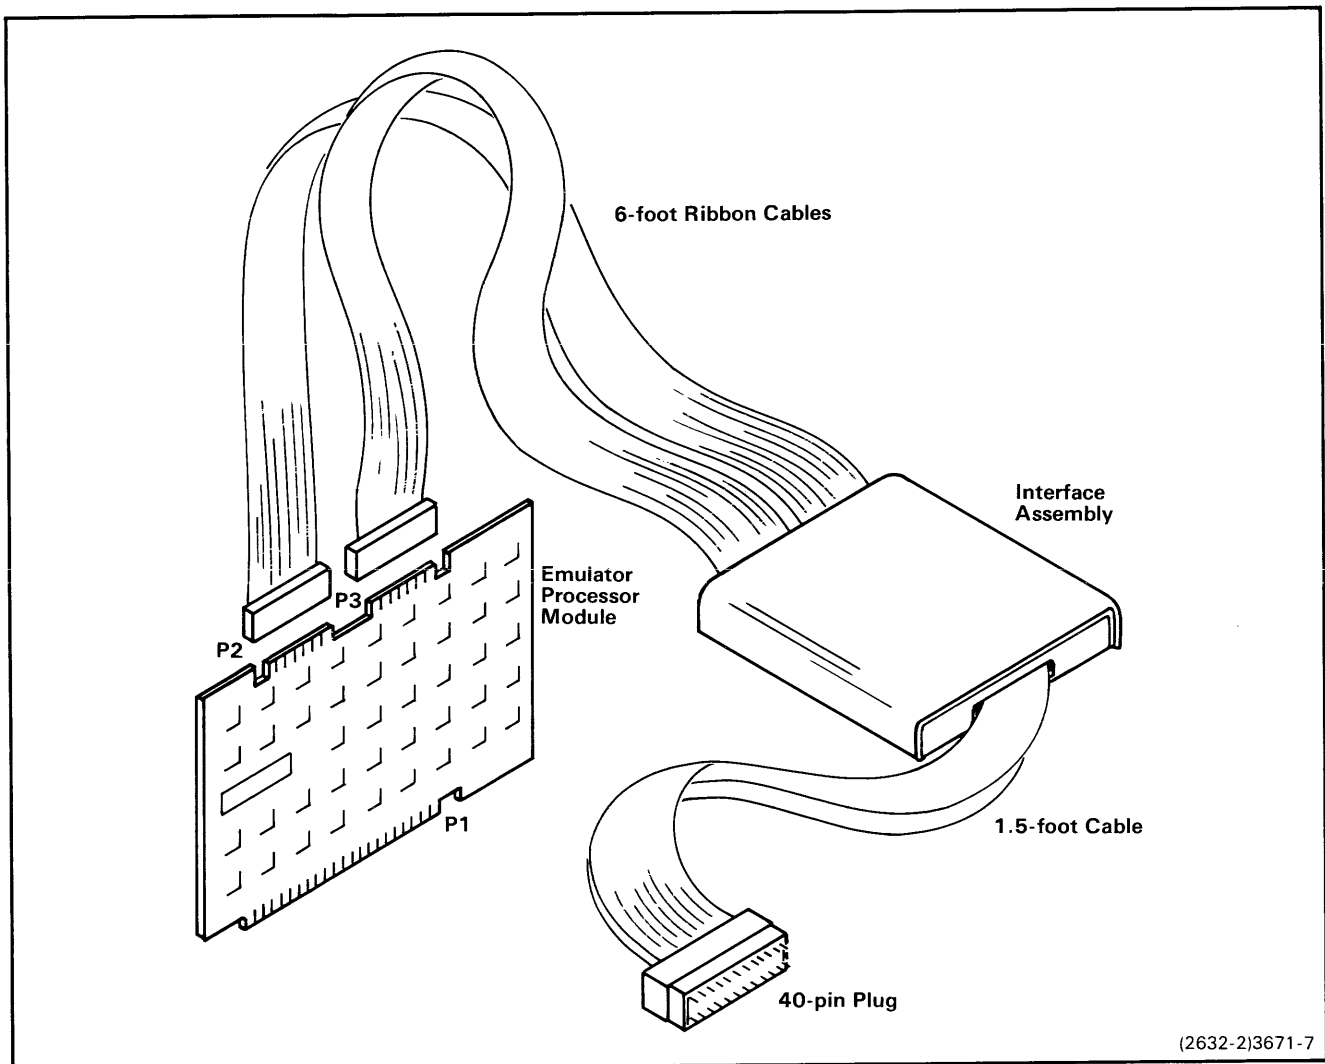

Fig. 3-4. Emulator Processor Module and Prototype Control Probe.
11. Attach the ribbon cable labeled P2 to the edge connector marked P2 (see Fig. 3-4). Be sure that pin 1 of the cable (red stripe) and pin 1 of the module edge connector align and are to the left when viewed from the component side of the module.